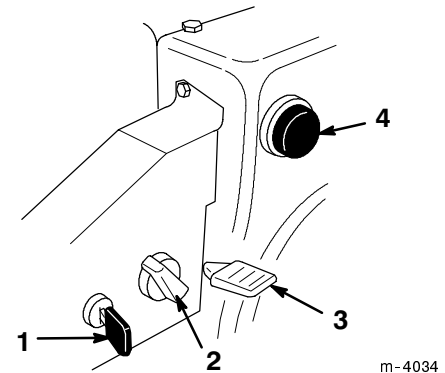

Figure 18
- **Ignition Switch** (Fig. 18)—Insert the key before starting the engine. To stop the engine, remove the key.
- **Choke** (Fig. 18)—Rotate the choke clockwise to the *On* position to start a cold engine. As engine warms up, gradually rotate the choke counterclockwise to the *Off* position.
- **Throttle** (Fig. 18)—Move the throttle upward to increase engine speed and downward to decrease engine speed.
- **Primer** (Fig. 18)—Press the primer to pump a small amount of gasoline into the engine for improved cold-weather starting.
2. Remove the key from the ignition switch (Fig. 18).
3. Pull the choke knob off (Fig. 18).
4. Rotate the choke (Fig. 18) to the *On* position.
5. Insert the ignition key (Fig. 18).
6. Cover the hole in the center of the primer (Fig. 18) with your thumb and push in the primer slowly three times.
9. After the engine starts, immediately rotate the choke (Fig. 18) to the 3/4 position. As the engine warms up, rotate the choke to the 1/2 position. When the engine warms up sufficiently, rotate the choke to the *Off* position.